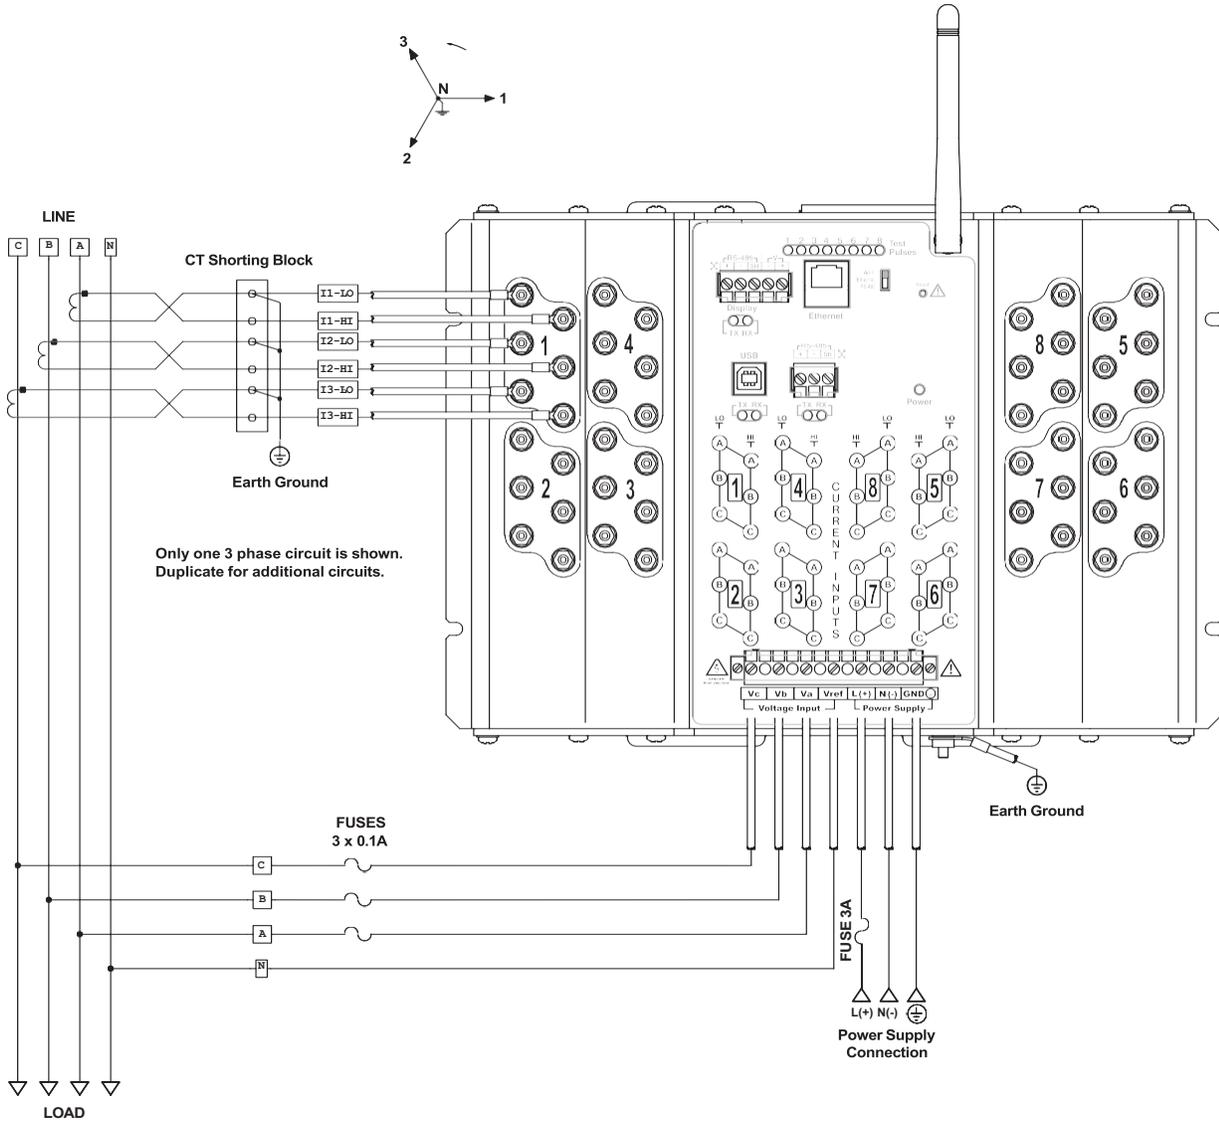

FIGURE 4.5: Three Phase, 4-Wire WYE Service Direct Voltage and 3 CT Connection for Metering 8 Three Phase Loads: EPM 4600-T
3. All shorting blocks are equipped with 4 brass shorting screws stored in the four corners of the base. Refer to Figure 4.5. **IMPORTANT!** If all 4 brass shorting screws are not on the shorting blocks do not continue until replacements are obtained.